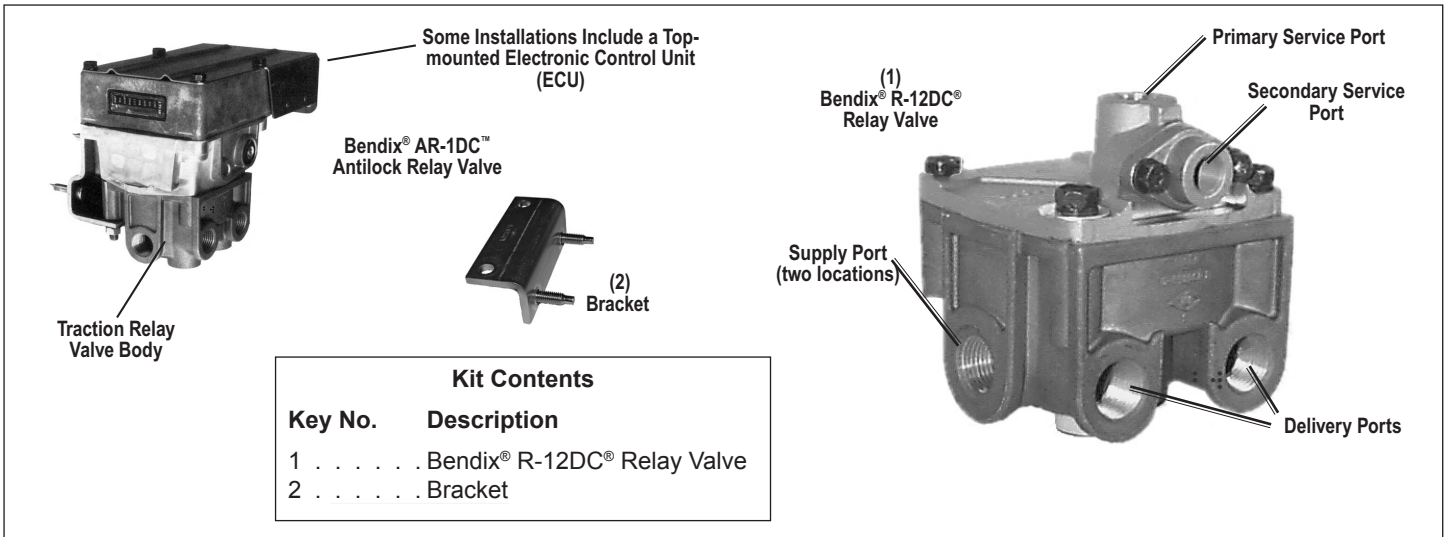

FIGURE 1 - BENDIX® AR-1DC™ ANTILOCK RELAY VALVE REPLACEMENT KIT
5. Remove the mounting hardware bolts and then remove the Electronic Control Unit (ECU) from the valve, if so equipped. (See Figure 1.) Retain the hardware for reinstallation.
1. In most cases, the bracket supplied in the kit will allow the existing holes in the frame rail to be used. (See Figure 1.)
3. See Figure 1. Two fasteners in the cover of the relay valve will need to be removed to permit the installation of the bracket. Note: One of the four fasteners will typically have an I.D. washer to show the crack pressure. (Be sure to re-use the I.D. washer.)
4. Attach the Mounting Bracket (2), re-using the fasteners with locking nuts or lockwashers; torque to 120-160 in-lbs.